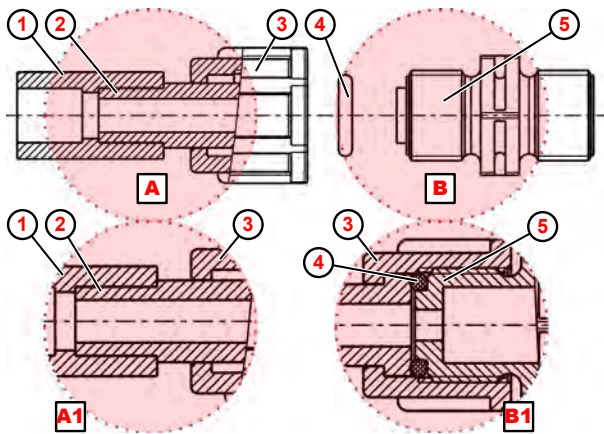

Fig. 10: Pipe connection with weld-on joint
1. ➤ Weld the weld-on concentration ( Fig. 10 , ① ) to the hose connection.
2. ➤ Place the o-ring ④ in the groove of the suction or pressure valve ⑤ .
3. ➤ Tighten the ③ union nuts (for details, Ⓑ1 ).